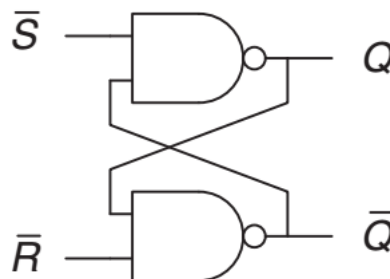

Figure A.2: Mystery Circuit
A.1.2 Describe the function of the circuit shown in Figure A.2. Is it a sequential circuit or a combinational circuit?